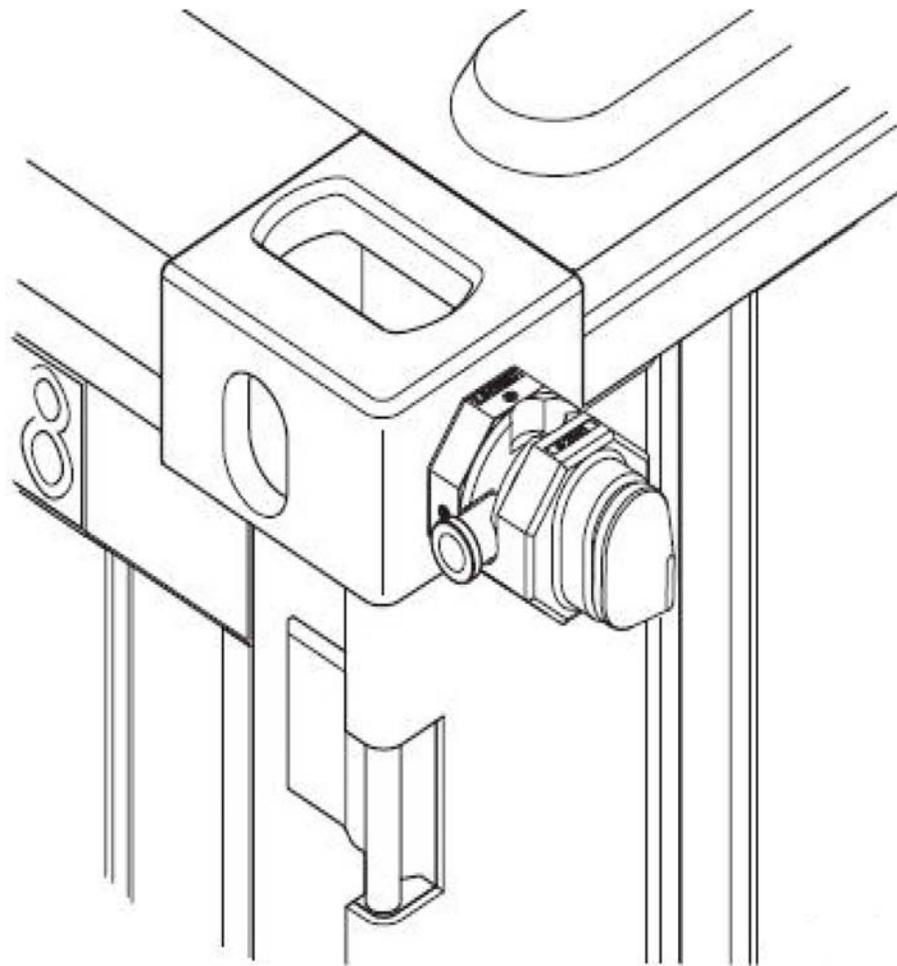

Figure 1-7. Container Connection.
- (10) Ensure the locking handle is in the OPEN position and the container coupler is positioned to mate with the ISO aperture of the second container as shown in Figure 1-7.